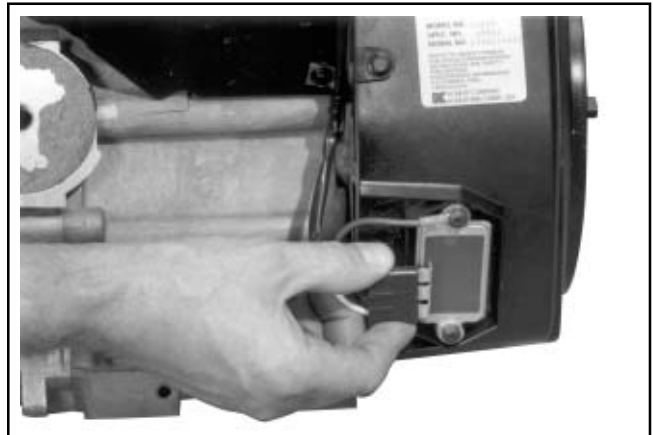

Figure 9-27. Disconnecting Plug from Rectifier-Regulator.
1. Disconnect the plug from the rectifier-regulator on the blower housing. See Figure 9-27.